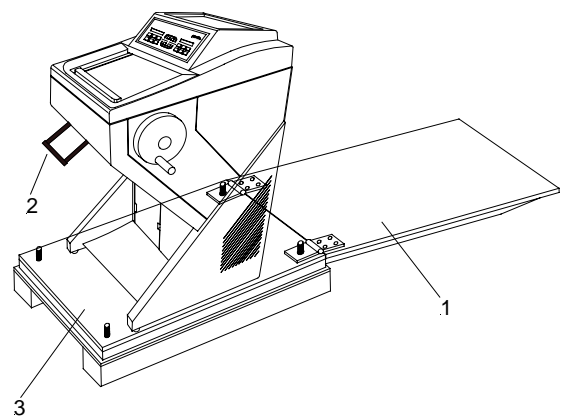

Fig. 3a
The upper wooden cover now serves as an incline (fig. 3a.1) on which the cryostat can be moved from the pallet to the floor by using the handle (fig. 3a.2)
- The hinges of the upper wooden cover (fig. 3.1) are inserted into the screws of the bottom plate (fig. 3a.3). The correct side for this is marked with arrows.
- Turn the setting feet completely upwards via this tool so that the cryostat stands with its rollers on the bottom plate (fig. 3a.3).
- Via the handle (fig. 3a.2) roll the cryostat from the bottom plate (fig. 3a.3) over the wooden cover (fig. 3a.1). In doing so, the rear side of the instrument must show to the incline (fig. 3a.1).